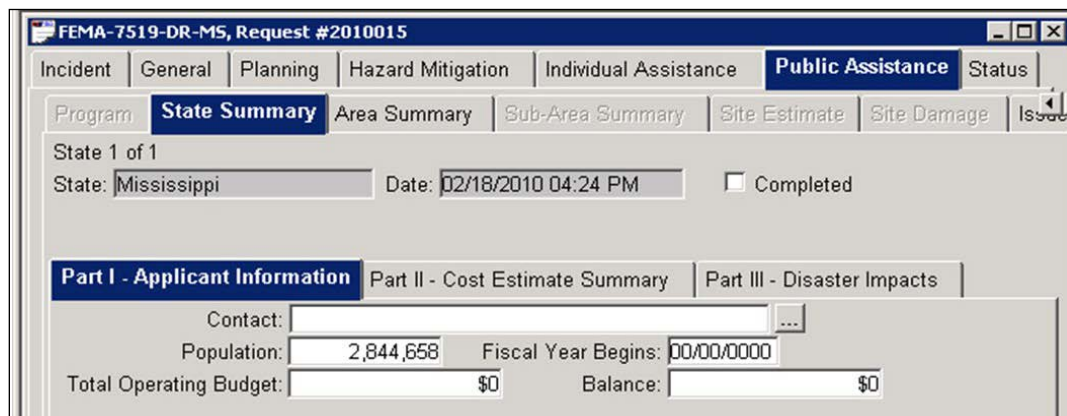

Figure 3-6: PDA > Public Assistance > State Summary > Applicant Information Tab
11. On the top part of the screen, click the **Public Assistance (PA)** tab.
- c. Among the three sub-tabs, **Part I - Applicant Information** is displayed by default. The tab displays Public Assistance Applicant information for the State (Figure 3-6).